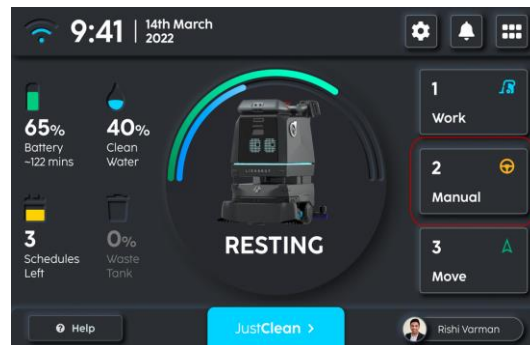

FIGURE 5-27
1. On the Home screen select the 'MANUAL CLEAN' button (Fig. 5-27) and pull up the handle bar (16).